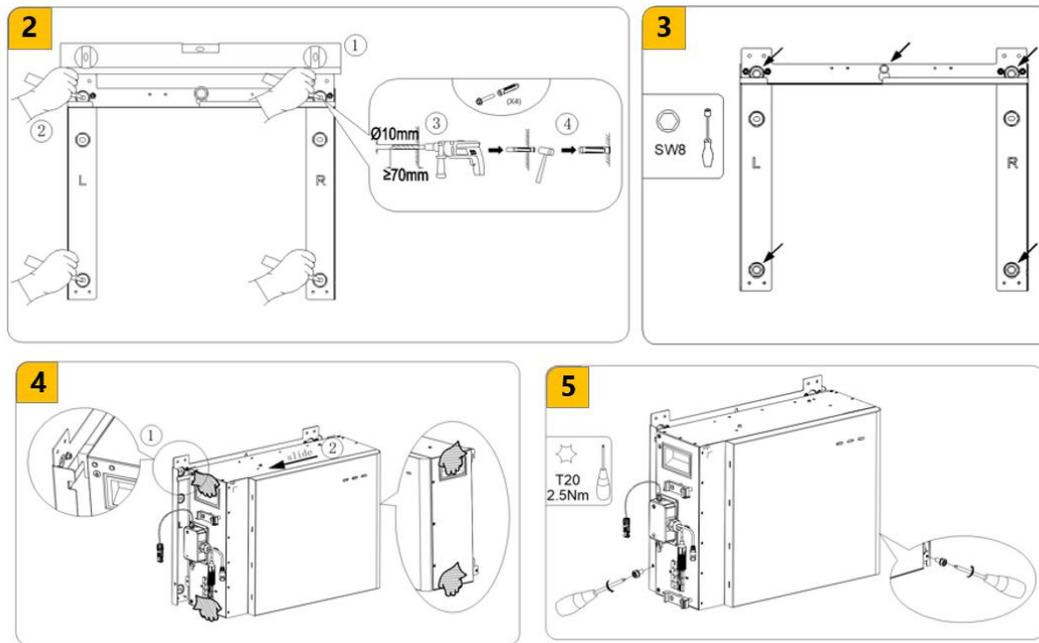

Figure 5-4 Installation diagram of a single battery wall-mounted bracket
2. Mark one drilling position which is used to secure the upper middle location of the wall bracket later and drill the marked hole with a  $\Phi 10$  drill. Insert the screw anchor into the drill hole, and pre-tighten the wall bracket horizontally with the provided screw (tool: Socket wrench SW8, torque: 4 Nm). Retain 5~10 mm from the screw head to the wall. Refer to Figure 5-4.
3. Take out the wall bracket from the packaging and hang the wall bracket on the screw head, adjust its horizontal position, then mark the other drilling positions, drill the marked holes with a  $\Phi 10$  drill and insert the screw anchors into the drill holes. Refer to 2 in Figure 5-4.
4. Secure the wall bracket to the wall (tool: Socket wrench SW8, torque: 6 Nm). Refer to 3 in Figure 5-4.
5. Horizontally lift the battery using the handles at two sides and let the top hooks on the back of the battery slide from right to left in the upper beam of the wall bracket. Refer to 4 in Figure 5-4.
6. Secure the battery to the wall bracket and tighten them with two M5\*12 screws (tool: T20 screwdriver, torque: 2.5 Nm). Refer to 5 in Figure 5-4.